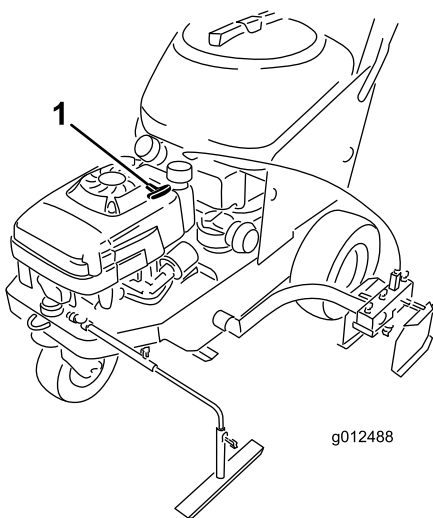

Figure 13
The recoil starter (Figure 13) is on the top of the engine. Pull the recoil starter to start the engine.
6. Pull the starter handle (Figure 13) lightly until you feel resistance, then pull it sharply. Allow the rope to return to the engine slowly.